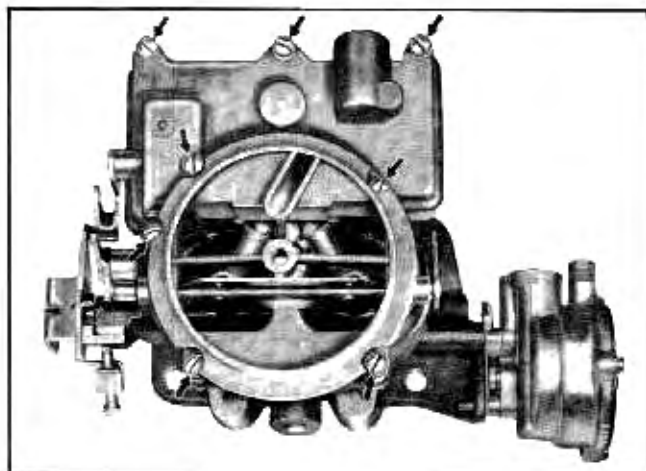

Fig. 6B-11 Location of Cover Attaching Screws
2. Disconnect the pump link (Fig. 6B-10) from the throttle lever by removing retainer. Link can be removed completely by rotating until it clears pump lever.
3. Detach choke intermediate lever (Fig. 6B-9) at lower end by removing horseshoe clip, then detach choke intermediate rod from choke shaft by rotating until the rod clears the lever.